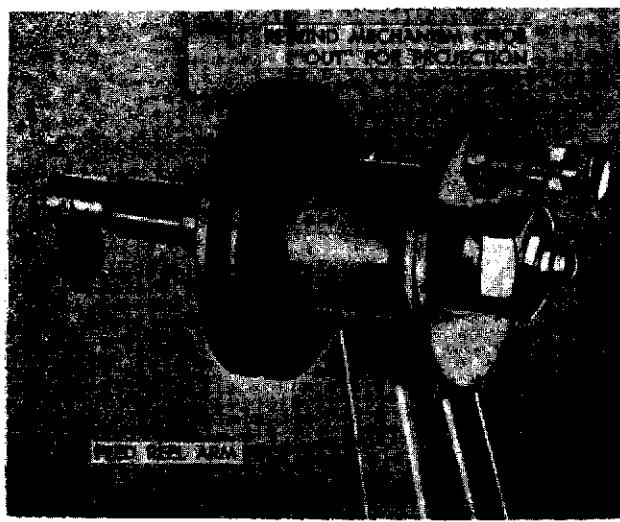

Figure 1-14. Feed Reel Arm Rewind Knob
and engaged in the short slot as shown in figure 1-14. This knob must be set in the IN position (engaged in the long slot) only when rewinding the film.
c. Set the rewind mechanism knob on the front reel arm (figure 1-14) to the "IN" or closed position. Turn the REWIND switch on the projector switch panel to the ON position. This will start the motor. d. Allow the film to run until all of the film is re-